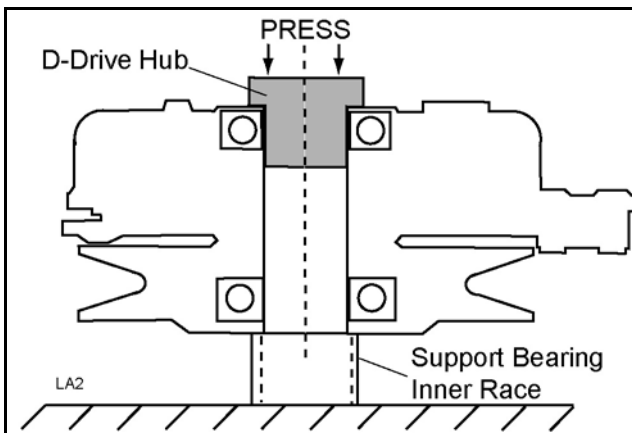

Figure 15. D-Drive Hub Installed
2. **For FZ23B Only:** Align keyway of new D-Drive hub (45) with key of clutch and press into front of clutch. See Figure 15 and Figure 16.